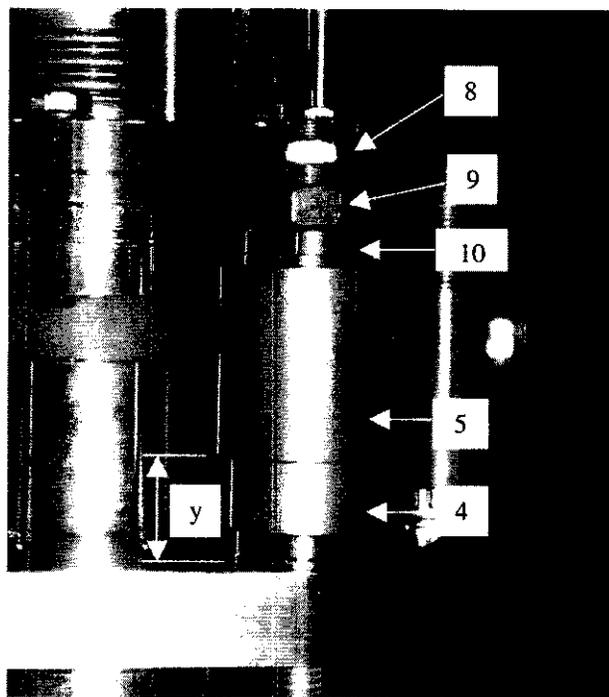
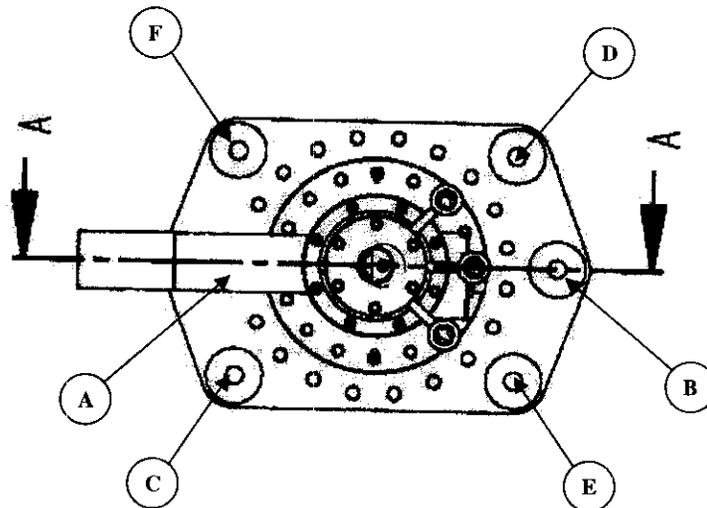

Figure 1.28a An installed Belleville Washer Assembly.
Figure 1.29.1.5 The specified sequence for tightening the Belleville Washer Assemblies.
- 1.28 Install Belleville Washer Assemblies on each tensioning stud per Figures 1.28a and 1.28b. A spherical washer must be placed below the Belleville washer holder on each stud. In the figures: Items 11 (10 each) are Belleville Washers, arranged as shown; Items 6 (2 each) are flat washers; Items 4 and 5 are the Belleville Washer Holder; Item 10 are Spherical Washers for above and below the washer holder; Item 9 is a loading nut; and Item 8 is a jam nut.
- 1.29.1.2** Tighten the 6 loading nuts finger-tight. With adjustable parallels, measure and record the gap "y" indicated in Figure 1.28a between Item 5 and the current lead top flange at the 6 locations specified in Figure 1.29.1.5. Units are mm.
- 1.29.1.4** Using the sequence A through F in Figure 1.29.1.5, tighten the loading nuts ¼ turn until the total compression is 1.8 mm at each of the six locations. As each loading nut is tightened ¼ turn, check off the appropriate line.
1.29.1.5 Record the final measured gaps 'y' in Figure 1.28a. Units are mm.
1.29.2.2 Tighten the 6 loading nuts finger-tight. With adjustable parallels, measure and record the gap "y" indicated in Figure 1.28a between Item 5 and the current lead top flange at the 6 locations specified in Figure 1.29.1.5. Units are mm.
1.29.2.4 Using the sequence A through F in Figure 1.29.1.5, tighten the loading nuts ¼ turn until the total compression is 1.8 mm at each of the six locations. As each of the loading nuts is turned ¼ turns, check off the appropriate line.
1.29.2.5 Record the final measured gaps 'y' in Figure 1.28a. Units are mm.